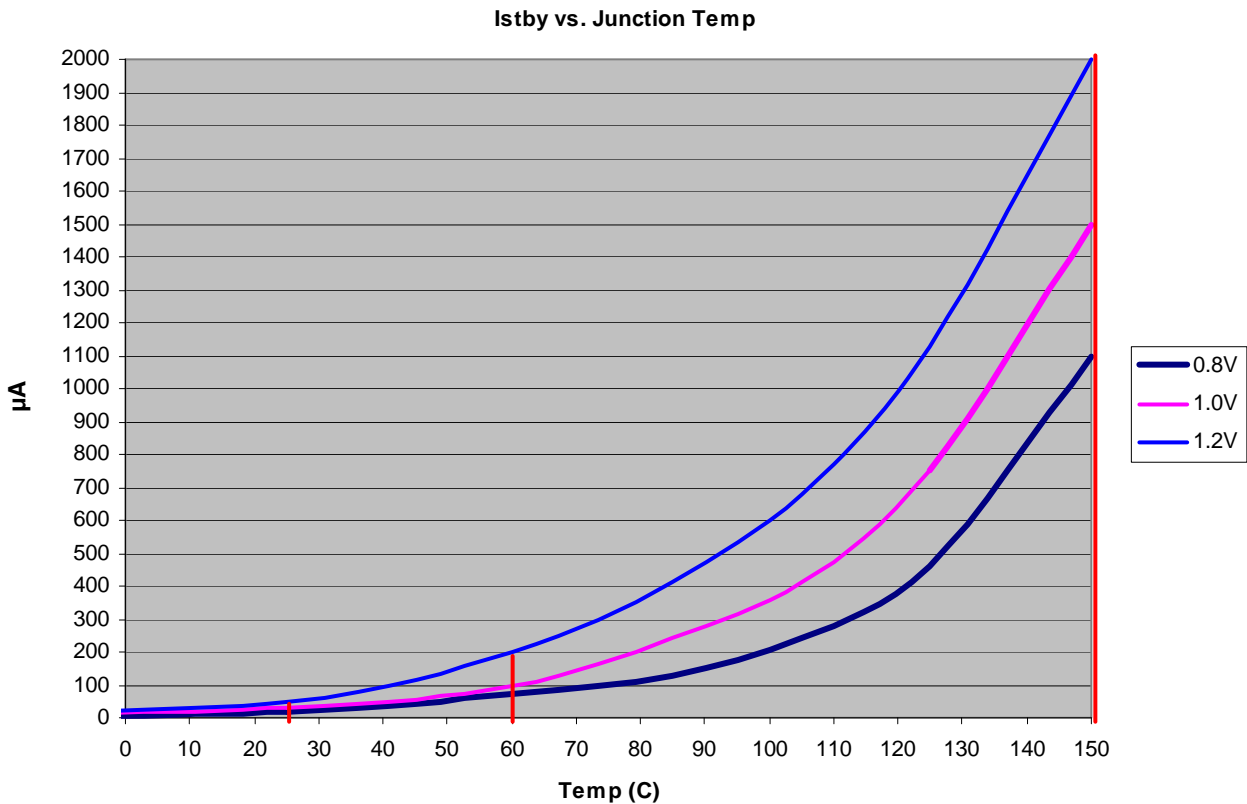

Figure 3. I_{STBY} Worst-case Specifications
27d	Refer to Figure 3 for an interpolation of this data. ¹²
- ¹² Figure 3 shows an illustration of the I_{DD_STBY} values interpolated for these temperature values.
Figure 3 shows an approximate interpolation of the I_{STBY} worst-case specification to estimate values at different voltages and temperatures. The vertical lines shown at 25 °C, 60 °C, and 150 °C in Figure 3 are the I_{DD_STBY} specifications (27d) listed in Table 9.